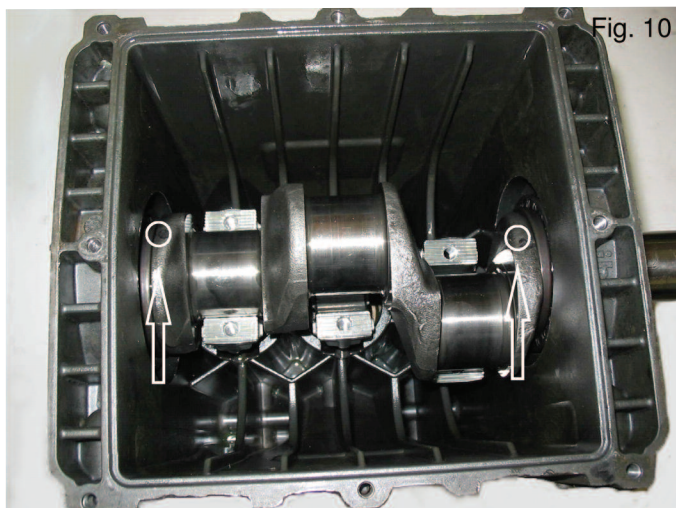

Fig. 10
- B) Push the piston guides and connecting rods forward so you can remove the pump crankshaft from the side. On the crankshaft, you will find marks (see Fig. 10) that must be turned towards the operator so the crankshaft can be easily extracted.